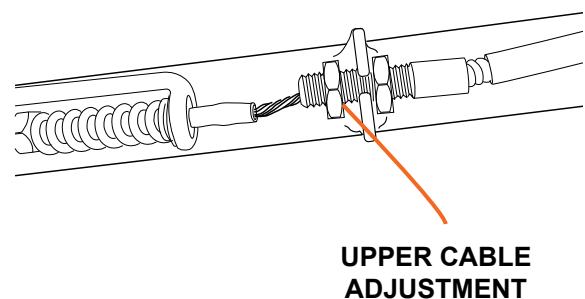

Figure 6
3. Adjust cable tension by loosening the jam nuts either at the upper handle position or at the lower end behind the belt (see Figure 6). Tighten cable 1/8 inch at a time until belt stops slipping.